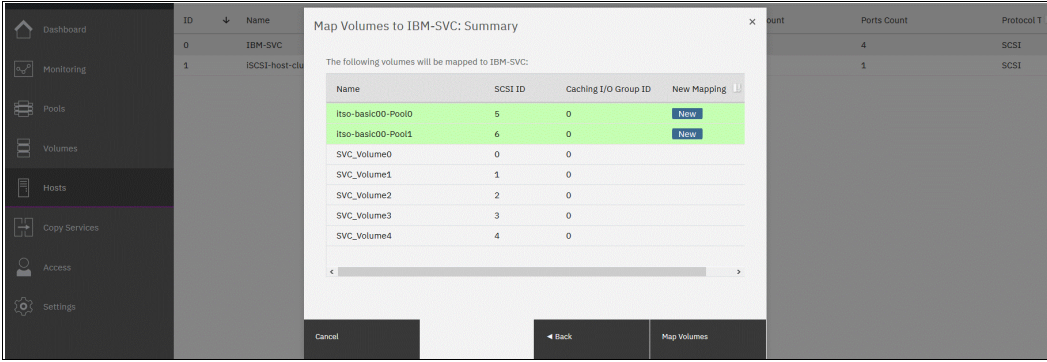

Figure 7-65 Summary of added shared mappings
- Click **Next** and a window appears asking for verification that the changes are correct (see Figure 7-65). Click **Back** to return and change the SCSI IDs or volumes that are being mapped, click **Cancel** to stop the task, or click **Map Volumes** to complete the operation.